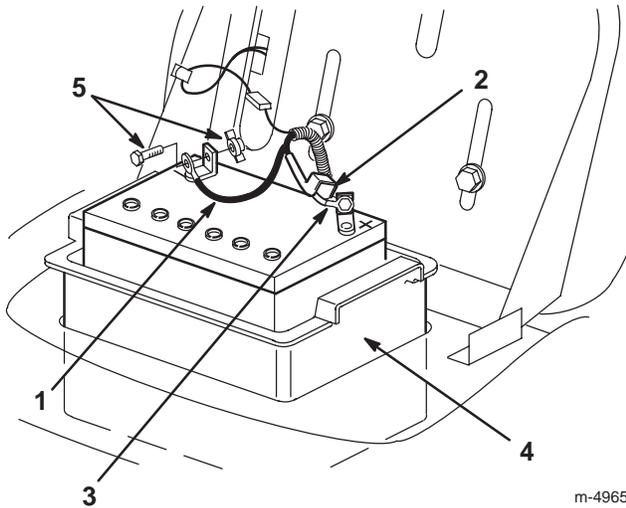

Figure 25
6. Disconnect the negative (black) ground cable from the battery post (Fig. 25).
7. Slide the rubber cover up the positive (red) cable. Disconnect the positive (red) cable from the battery post (Fig. 25).
8. Remove the battery box and battery from the chassis (Fig. 25).
1. Put the battery into the battery box and install it into the chassis (Fig. 25).
2. Using the bolt and wing nut, connect the positive (red) cable to the positive (+) battery post (Fig. 25). Slide the rubber cover over the battery post.
3. Using the bolt and wing nut, connect the negative (black) cable to the negative (-) battery post (Fig. 25).